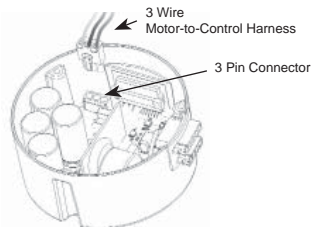

Figure 14b
- Disconnect the three-wire motor-to-control harness from the control [Figure 14b] and remove control unit. Inspect for bent, damaged, or recessed wires and terminals inside of control connector.